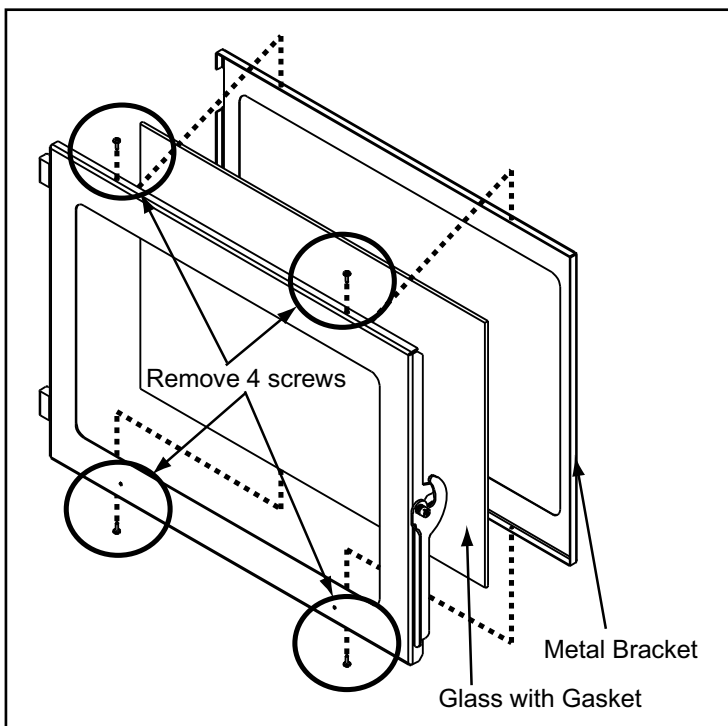

Figure 37.1
- b. Using a Phillips head screw driver, remove 4 screws 2 on the top and 2 on the bottom. Remove metal bracket and then remove the glass. **Figure 37.1**